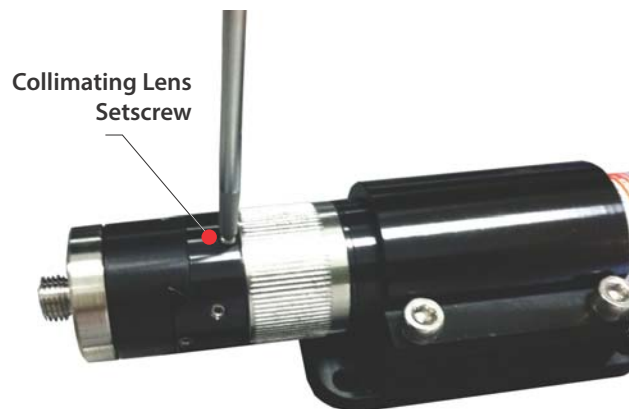

Figure 2-33. Loosen Collimating Lens Set Screw
4. Using the 0.035-inch hex driver, loosen the collimating lens set screw on the laser, as shown in Figure 2-33.